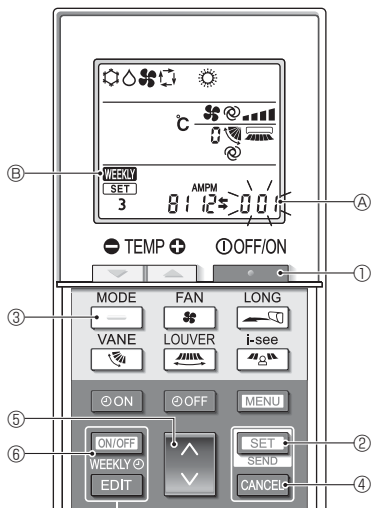

Fig. 4-9
#### 4.9.8. How to disable Auto mode operation (Fig. 4-9)
1. Press the **STOP** button ① to stop the air conditioner.
- If the weekly timer is enabled, press the **ON/OFF WEEKLY** button ⑥ to disable the timer. (**WEEKLY** ⑩ disappears.)
2. Press the **SET** button ② for 5 seconds.
- The unit enters the function setting mode. (The group model setting number ④ blinks.)
3. Press the **DOWN** button ④.
4. Completing the settings (Fig. 4-9)
- Press the **SET** button ② for 5 seconds.